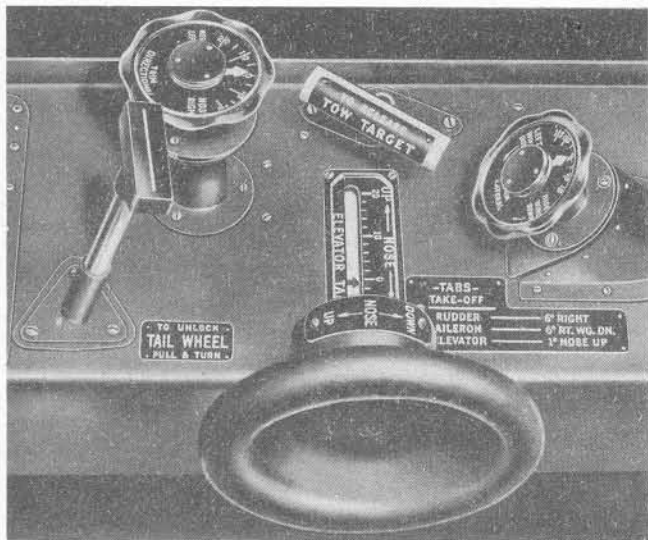

Figure 24—Trim Tab Controls and Tail Wheel Lock
f. **TRIM TAB CONTROLS.**—Trim tabs are provided on the left wing aileron, on the elevators, and on the rudder to permit control forces to be trimmed to comfortable values under all normal operating conditions. Refer to figure 24.